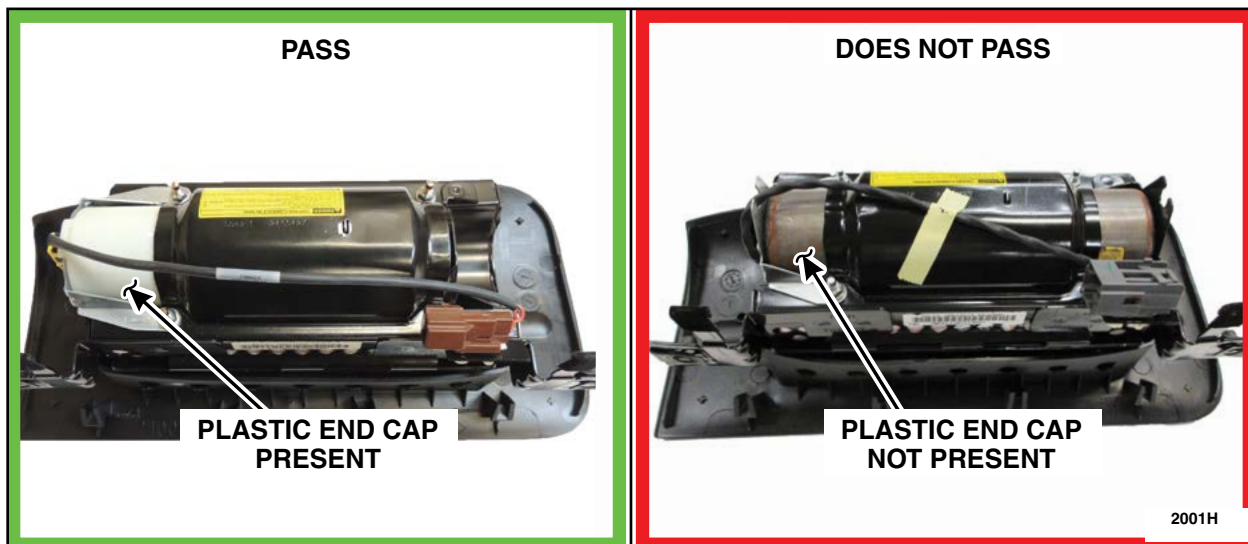

FIGURE 6
3. Inspect the passenger airbag inflator end for the presence of a white plastic end cap as shown in Figure 6. Is the white plastic end cap present on the airbag inflator?